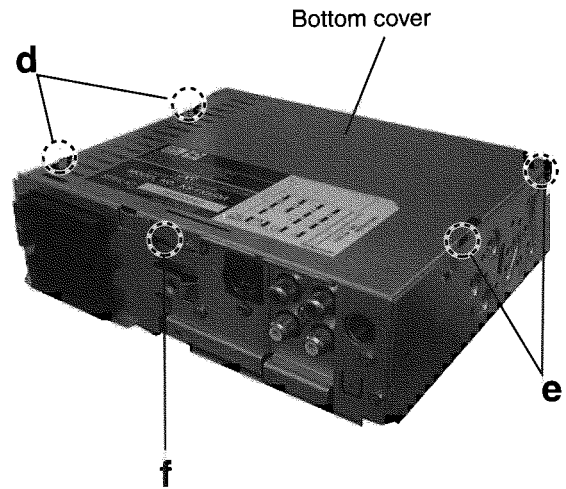

Fig. 5
■ **Removing the bottom cover (See Fig.5)**
■ **Removing the load arm (See Fig.5)**